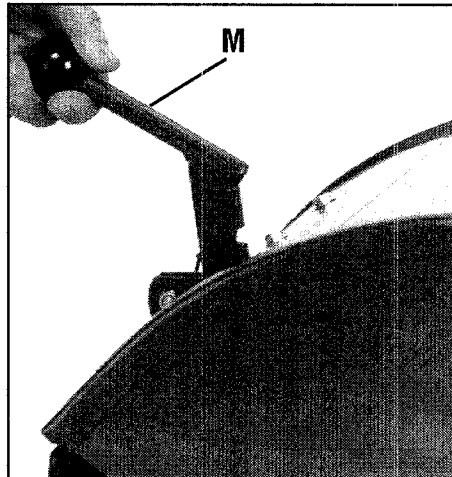

Figure 2-12: Put lever in second notch.
2. Pull the Depth Regulator Lever (M, Figure 2-12) straight back and then slide it to the second notch from the top. If the lever does not move freely, lift the tine hood flap and look for a plastic tie securing the lever in place. Cut and remove the tie.
1. With the unit on level ground, pull the Depth Regulator Lever (M, Figure 2-12) back and then move it to the second notch from the top. This places the engine in a level position.